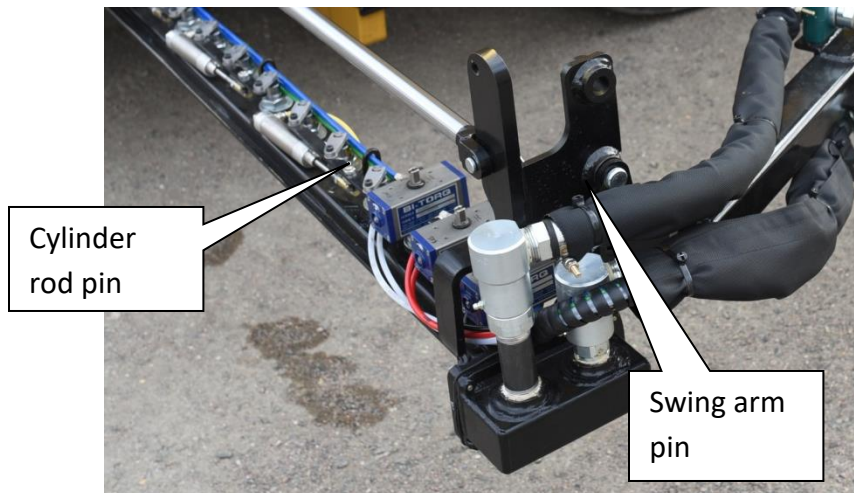

Figure 14: Telescoping spray bar cylinder rod pin
- c. Remove the pins that attach the cylinder rods and swing arms to the ends of the telescoping spray bars (see Figure 14).